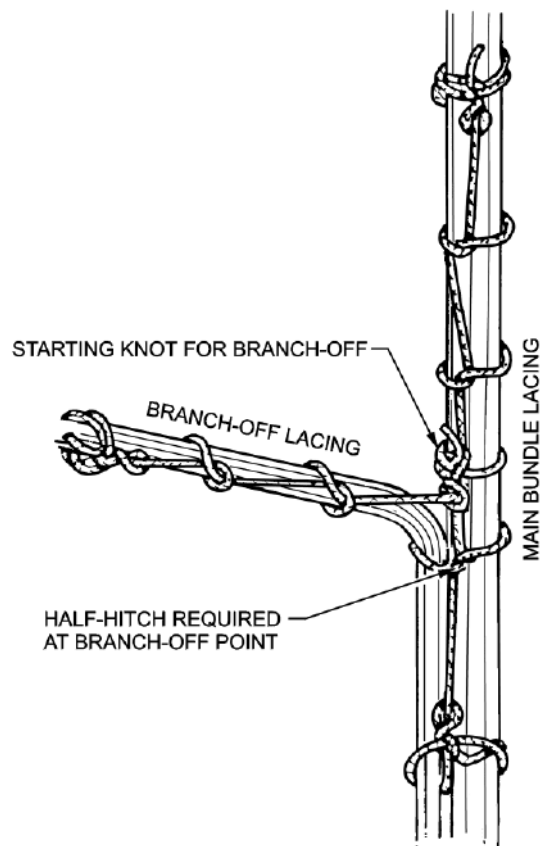

Figure 8-3 Lacing a Branch-Off
24. Lace a wire group that branches off the main wire bundle as follows (see Figure 8-3):